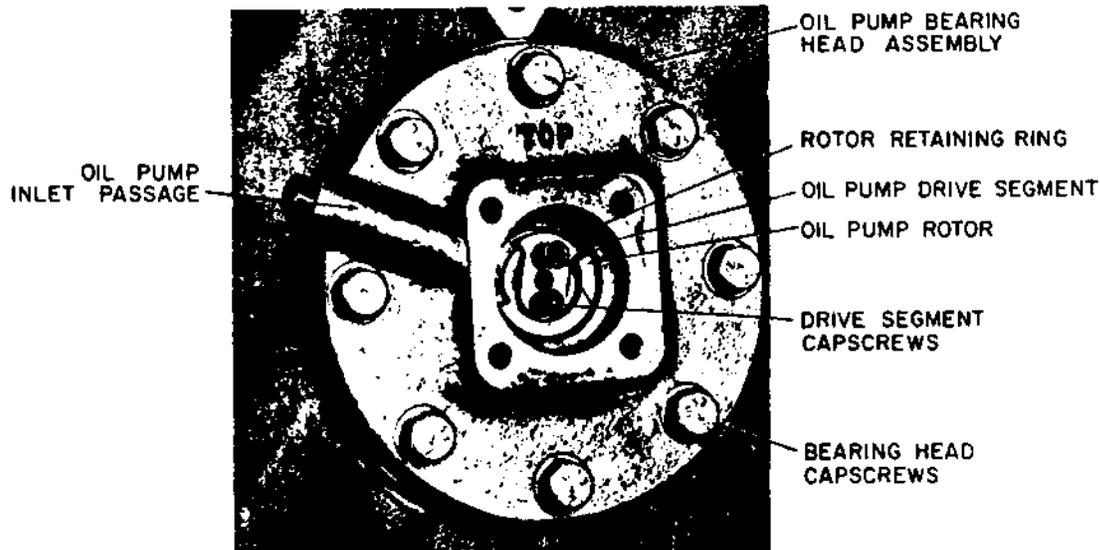

Figure 3-3. Bearing Head with Oil Pump Cover Removed
- b. Remove the two drive segment capscrews and lock washers. See figure 3-3.
- d. Install the drive segment with the two capscrews and lock washers. See figure 3-3, page 3-4.